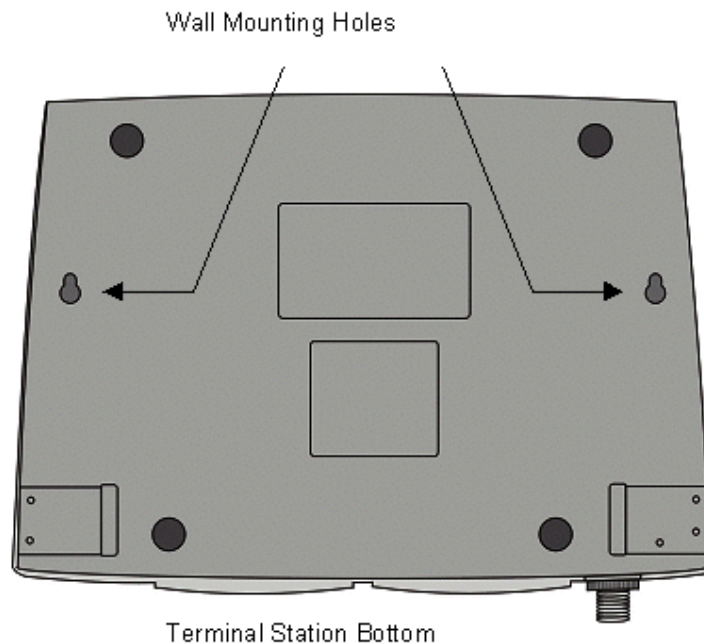

Figure 10-1: Terminal Station IDU Wall Mounting
1. Referring to Figure 10-1, turn the Terminal Station IDU upside down and locate the two wall mounting holes.